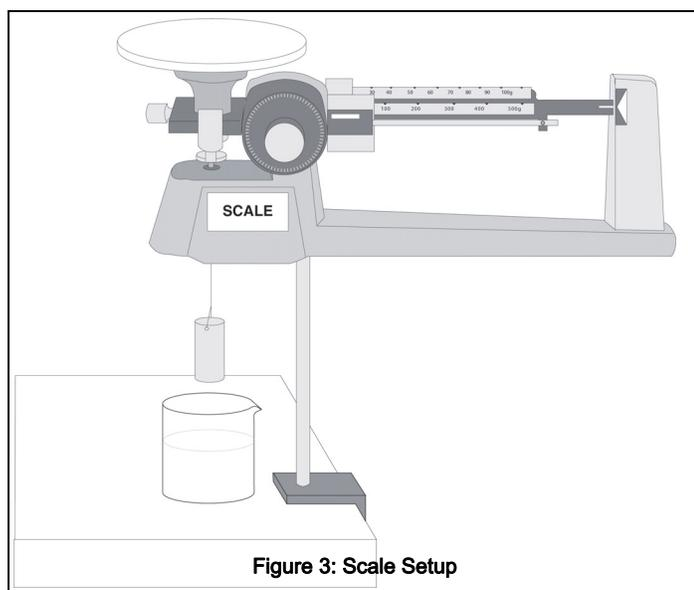

Figure 3: Scale Setup
- Put the triple-beam balance on top of a stand as shown in Figure 3. Tie a string to the bottom of the pan.